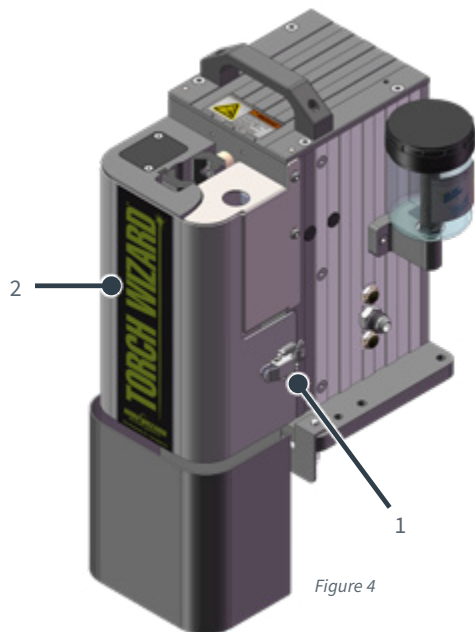

Figure 4
The Torch Wizard® Nozzle Cleaning Station incorporates an adjustable V-Block feature. This feature eliminates the need to replace the V-Block when changing to different diameter gas nozzles. To adjust the V-Block, follow the procedure below (along with Figs. 4 and 5). **Ensure that there is no air pressure or electrical power to the unit before performing this procedure.**
1. Remove the Stainless Steel Guard (refer to Fig. 4 and the procedure for adjusting the V-Block on page 5).
2. With one hand, hold a gas nozzle in the V-Block at the position that will be used when programming the robot. With the other hand, raise the reamer and check the insertion depth of the reamer bit (1).
3. If the insertion depth is incorrect, loosen the Socket Head Cap Screws (2). Move the Air Motor (3) up or down to obtain the correct insertion depth. If the motor will not move, screw in the Jack Screws (4) to loosen the motor clamp.
4. Back out the Jack Screws (4) if necessary, and tighten the Socket Head Cap Screws (2). Repeat steps 1 – 3 until the correct insertion depth is obtained.